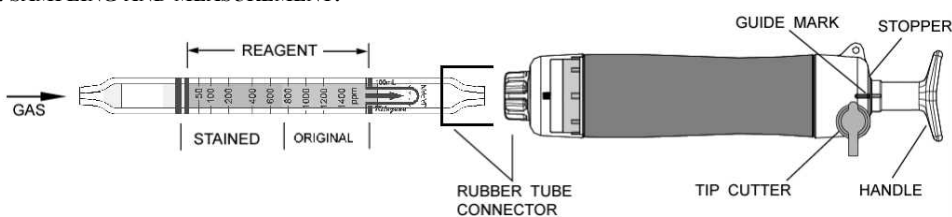

Fig.1
- ① Break both ends of the detector tube.
- ② Insert the detector tube into the aspirating pump securely as shown in Fig.1. (Arrow mark shall point to the pump.)
- ③ Align the guide marks on the shaft and stopper of the aspirating pump.
- ④ Pull the pump handle at a full stroke until it locks and wait for 1.5 minutes or until the completion of sampling is confirmed with the flow indicator of the pump. (See descriptions about the flow indicator in the instruction manual of the pump.)
- ⑤ On completion of sampling, read the scale at the maximum point of the stained layer.
- ⑥ Just in case of 2,2,4-Trimethyl pentane detection, if the discolouration is over the scale range, a 1/2 pump stroke can be used to determine concentrations of 200 to 4000ppm.